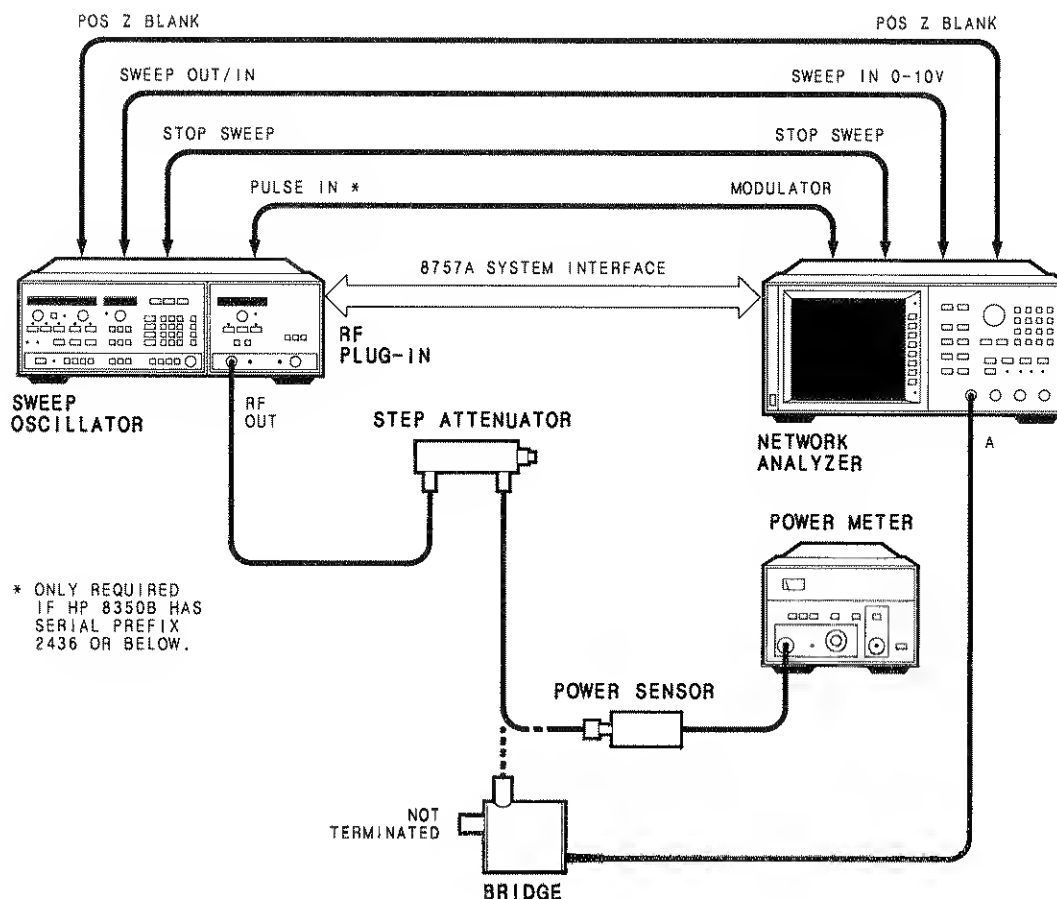
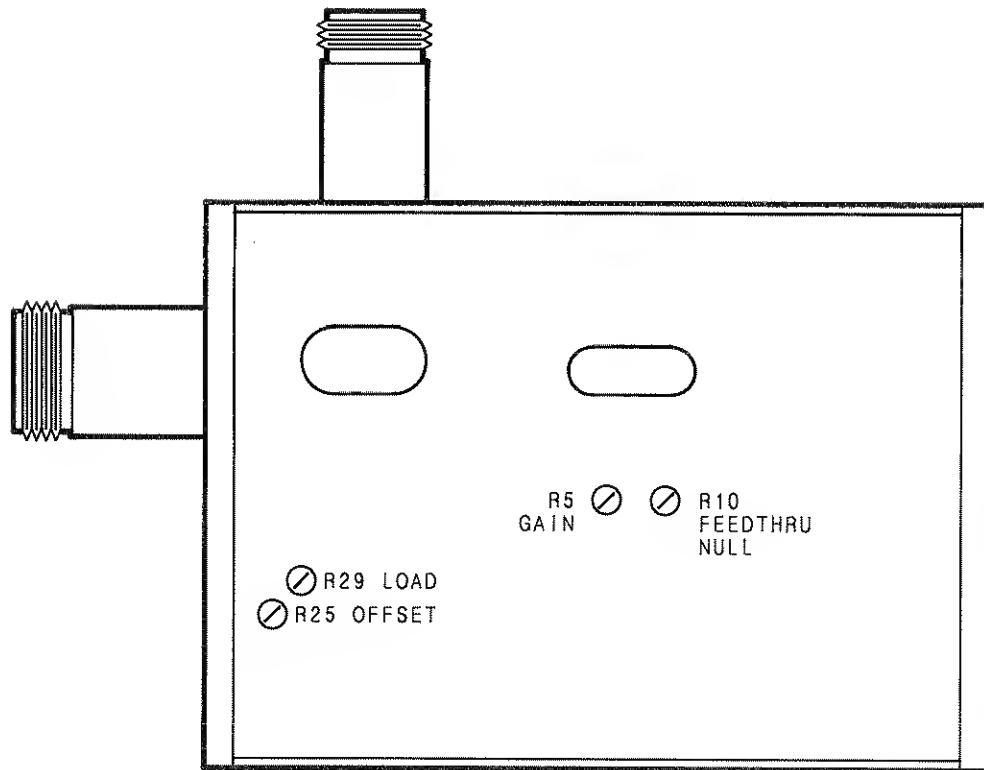

Figure 5-1. Adjustment Setup
Figure 5-2. Locations of Adjustment Potentiometers
Note: to perform the following adjustments refer to Figure 5-2 for the locations of the adjustment potentiometers.
1. Set up the equipment as shown in Figure 5-1. Turn on the analyzer, source and power meter and allow 30 minutes for warm-up. Refer to Figure 5-2 for locations of the adjustments.